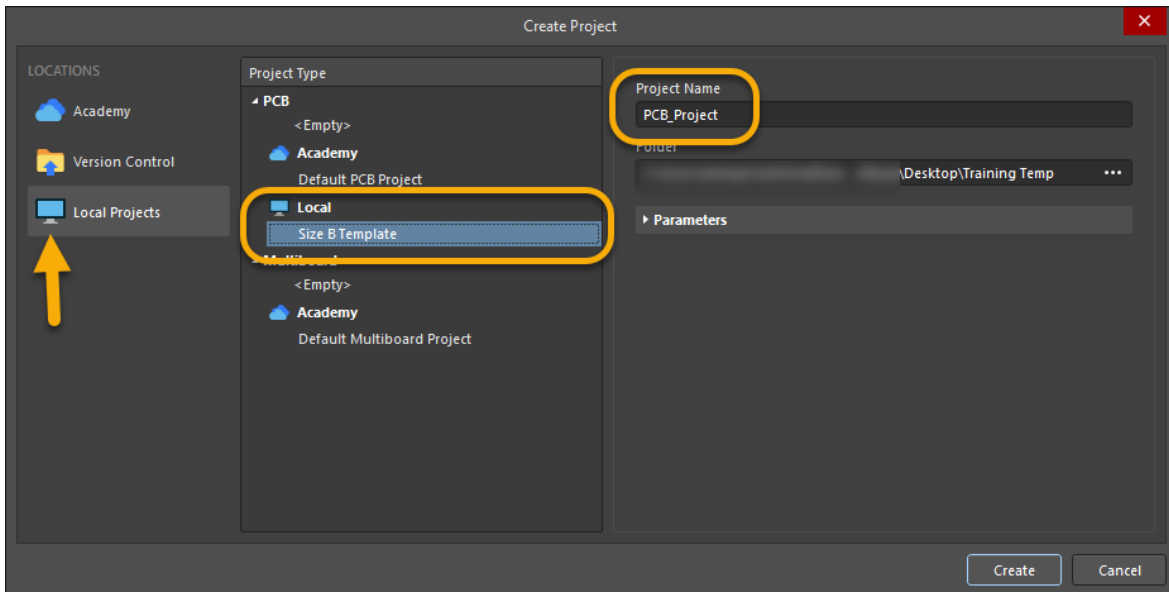

Figure 27: Create Project Dialog
84. In the **Create Project** dialog, select our new local template, Figure 27. Choose any name and your choice of folder.